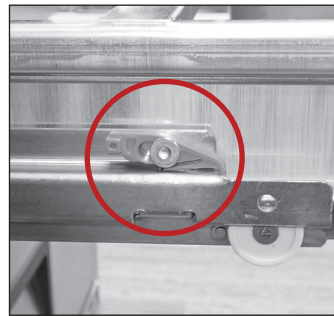

Fig. 5. Drawer retainer location.
8. Slide the drawer out and locate the plastic drawer retainer. See fig. 5